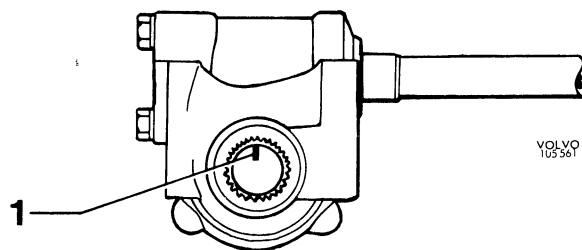

Fig. 6-45. Steering box in middle position
1. Place the steering box in the middle position (Fig. 6-45) and turn the steering wheel so that the front wheels point straight forward (Fig. 6-32).